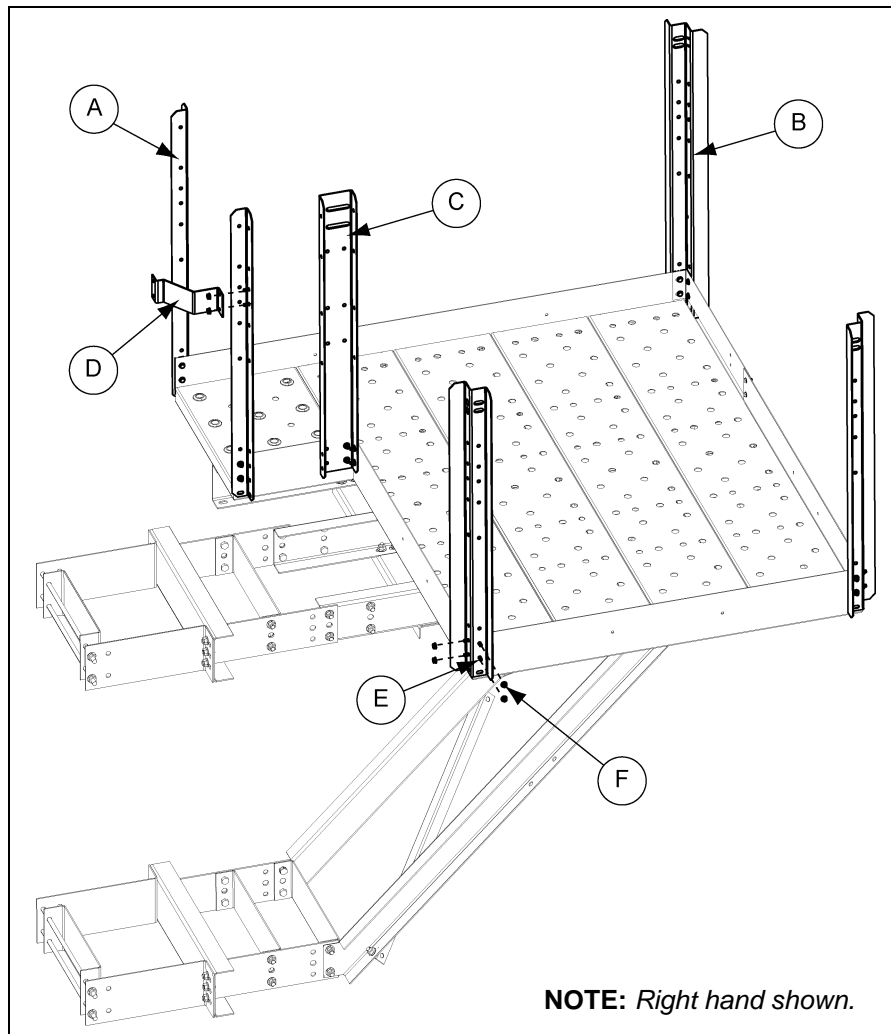

Figure 10L
1. Install the remaining two (2) "W" corner posts to the corners on the non-entrance side of the decking using four (4) 5/16" x 3/4" flange bolts and nuts per post.
2. Install platform post (HP1648HCP) to the inside corner of the decking near the entrance to the platform using four (4) 5/16" x 3/4" flange bolts and nuts.
3. Attach side posts (HP1648HP) to the decking at the entrance to the platform using two (2) 5/16" x 3/4" flange bolts and nuts per post. *(See Figure 10L.)*
4. Install distributor handrail support to the side post on the inside, located closest to the trunking through holes 3 and 4 counting from the top of the post. Use two (2) 5/16" x 3/4" flange bolts and nuts to fasten in place. *(See Figure 10L.)*